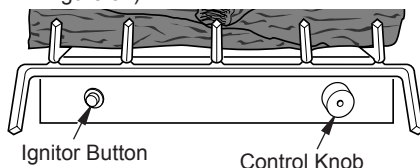

Figure 51 - Control Knob and Ignitor Button Location
4. Wait five (5) minutes to clear out any gas. Then smell for gas, including near the floor. If you smell gas, STOP! Follow B in the safety information. If you don't smell gas, go to the next step.
5. Turn control knob counterclockwise  to the PILOT position. Press in control knob for five (5) seconds (see Figure 51).